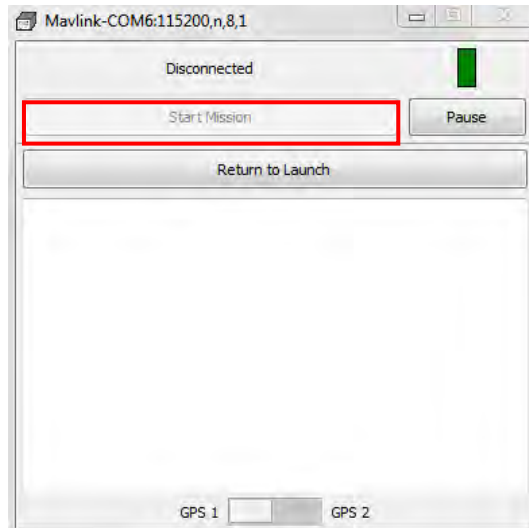

Figure 47: MAVLINK window and Start Mission button
- ⇒ MAVLINK window => Start mission (Figure 47)